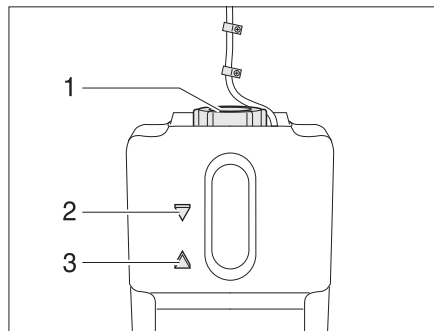

Fig. 154 Compensator reservoir hot-water heater
- Check if the fluid level is between the marks "MIN" (Fig. 154,3) and "MAX" (Fig. 154,2) on the compensator reservoir (Fig. 154).
- Unscrew the screw cap (Fig. 154,1) at the compensator reservoir.